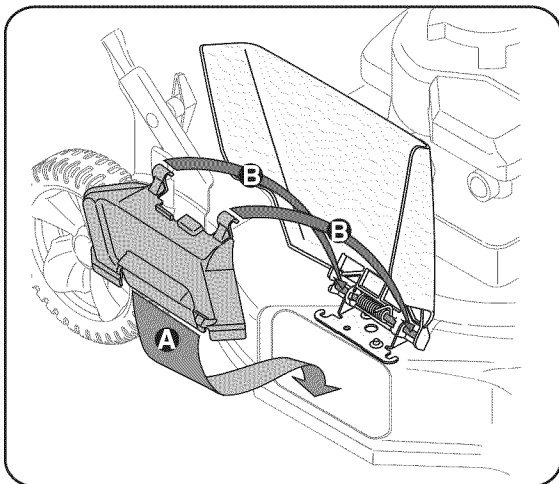

Figure 8
7. If your mower is equipped with an optional mulching baffle, install it as shown in Figure 8.